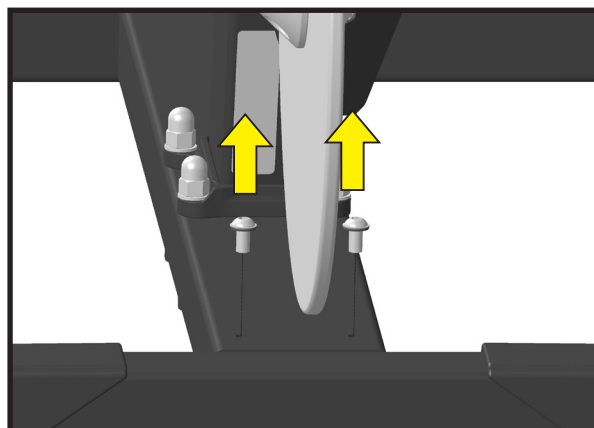

Figure 5. Remove the Allen Screws
1. Remove the two Allen screws and washers from the base frame, refer to Figure 5. Do not discard the screws. They will be used to mount the flywheel guard.